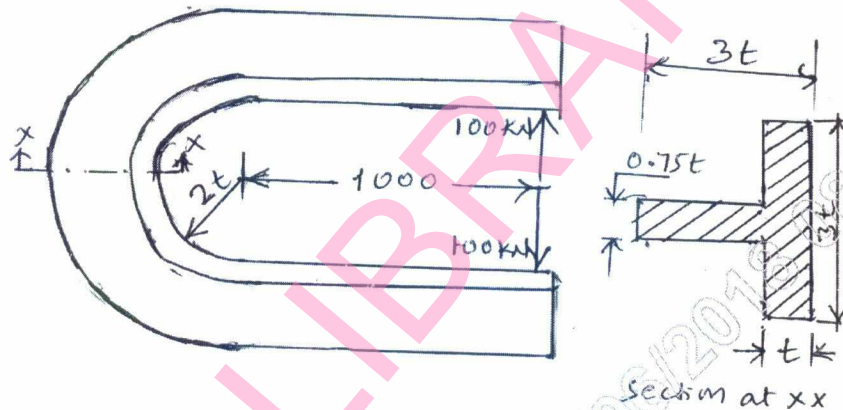

Fig. Q1 (b)
b. The C-frame of a 100 kN capacity press is shown in Fig. Q1 (b). The material of the frame is grey cast iron FG200 and the factor of safety is 3. Determine the dimensions of the frame. (12 Marks)